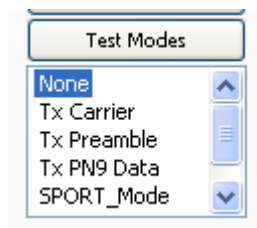

Figure 27
- SPORT mode can be configured by clicking the “Test Modes” button followed by double clicking on the “SPORT_Mode” text. (Figure 27)